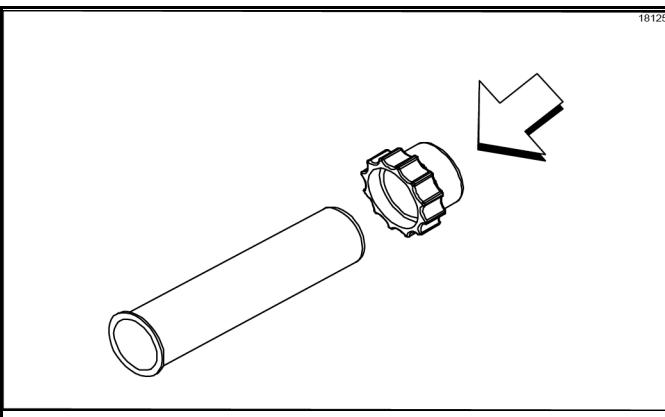

Figure-90
5. Install the plunger nut onto the plunger tube. (See Figure-90.)